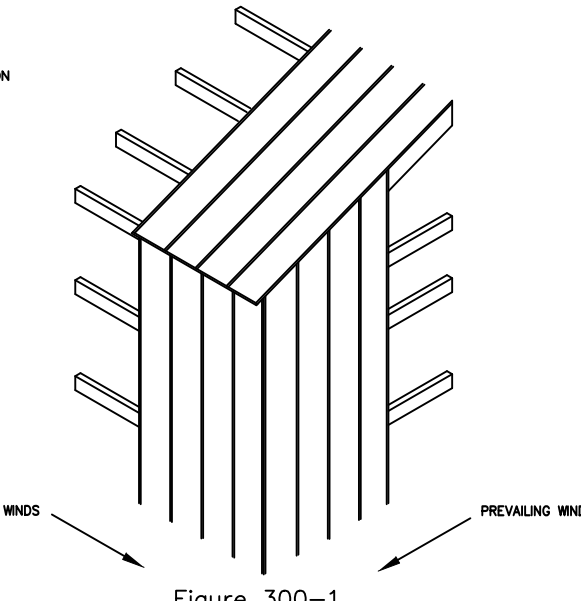

Figure 300-1
4. Always run siding and roofing into the prevailing winds. In most areas this means starting on the east and laying the sheets to the west, or starting on the north and laying to the south. Most severe summer storms move from southeast to northeast. See figure 300-1.